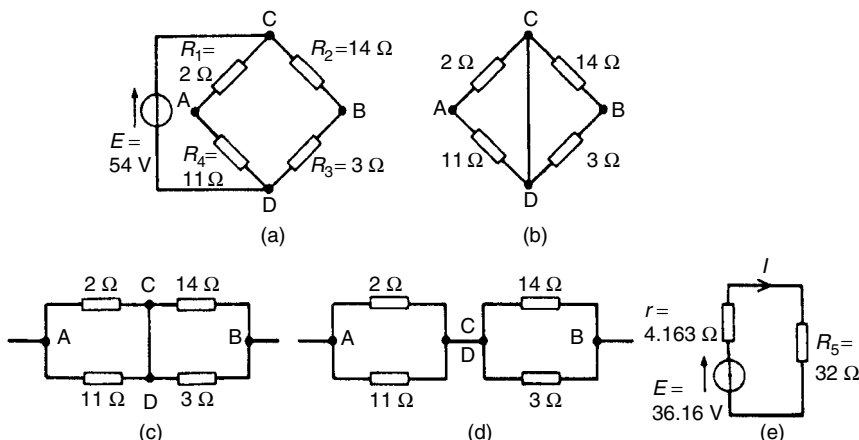

Figure 13.47
(i) The 32 Ω resistor is removed from the circuit as shown in Fig. 13.47(a)
- (iii) Replacing the source of e.m.f. with a short-circuit (i.e. zero internal resistance) gives the circuit shown in Fig. 13.47(b). The circuit is redrawn and simplified as shown in Fig. 13.47(c) and (d), from which the resistance between terminals A and B,
- (iv) The equivalent Thévenin's circuit is shown in Fig. 13.47(e), from which, current